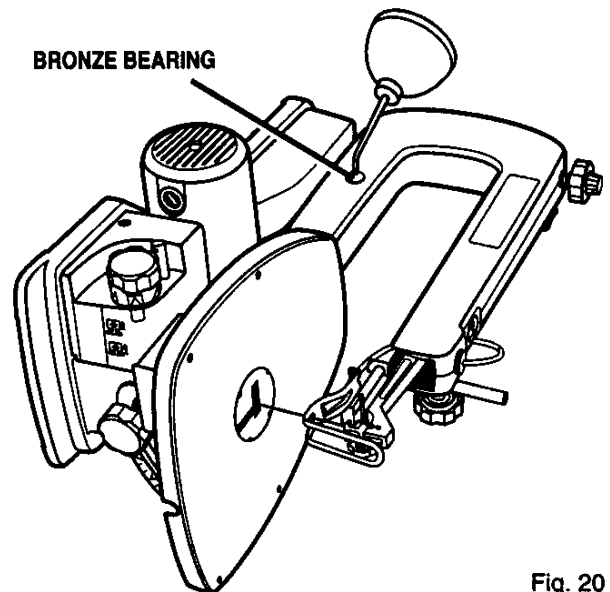

Fig. 20
See Figure 20.
- Carefully place the saw on its side as shown in Figure 20. Remove the rubber cap from the lower arm of the saw.